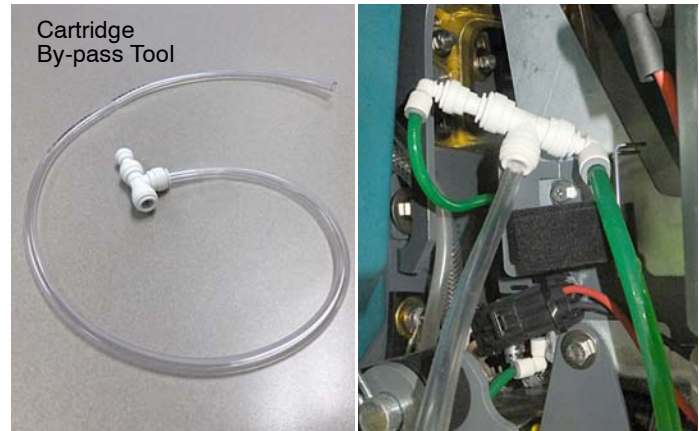

Fig. 59
1. Connect the cartridge by-pass tool, provided separately, to the two green hoses as shown. Route the clear discharge hose to the floor. The use of the cartridge by-pass tool is to prevent activating the ec-H2O water conditioning cartridge during the check process (Figure 59).